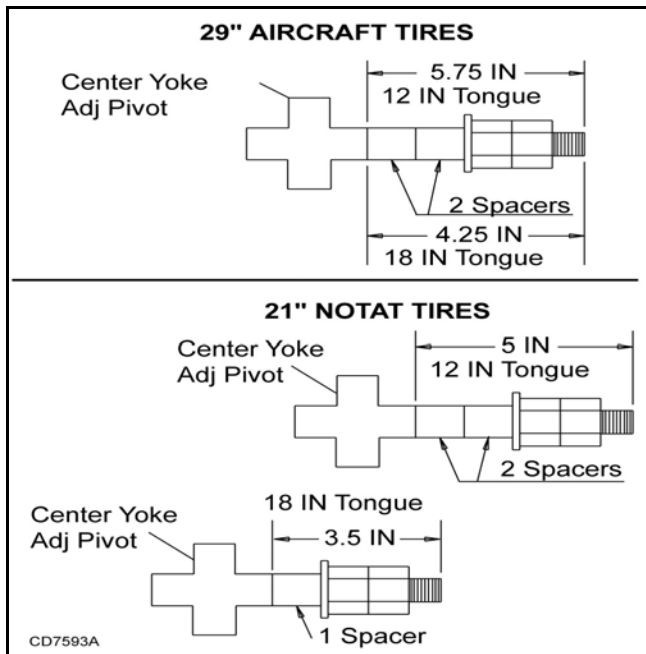

Figure 1A. Attitude Rod Adjustment
6. Adjust inner nuts in or out until the rear of the cutter is approximately 1/2" higher than the front. See Figure 1A. It's used as a starting point for adjusting the attitude rod, based on different tongue height and wheel options.